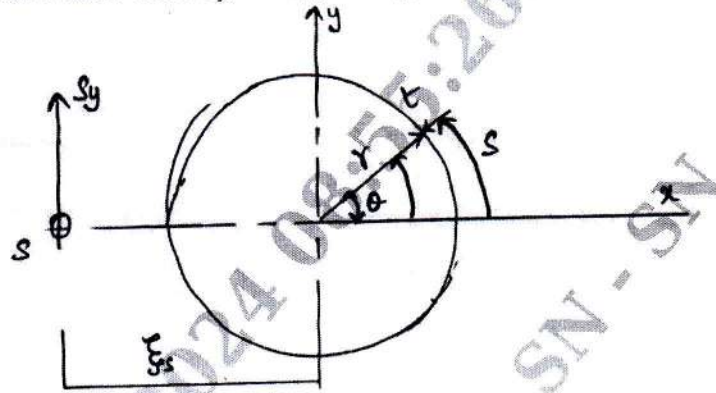

Fig. Q3 (b)
- b. Calculate the shear flow distribution in the thin walled open section shown in Fig. Q3 (b), produced by a vertical shear load  $S_y$ , acting through its shear centre.